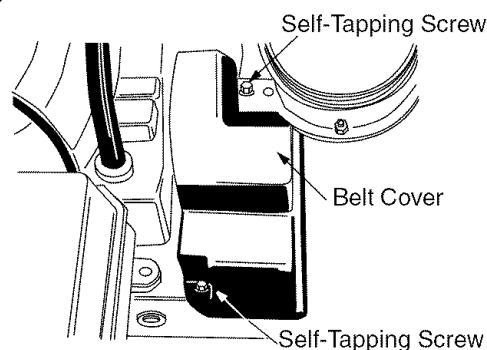

Figure 17
2. Remove the plastic belt cover at the front of the engine by removing the two self-tapping screws. See Figure 17.